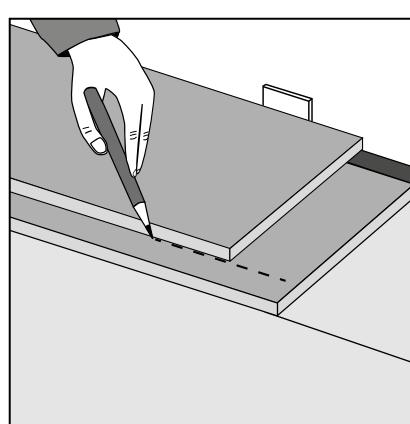

Figure 19 Last row
- Lay these panels on top of the installed row (Fig 19). Hold them firmly in place. Then line up a third panel on top. Place the edge of this panel against the wall after inserting a spacer.